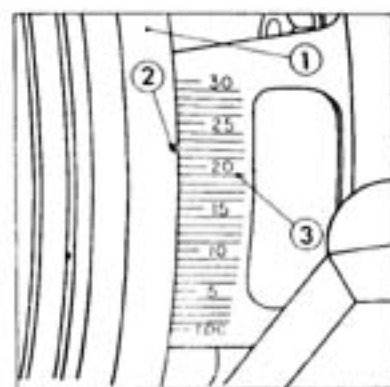

FIG. 11
- a. Some models are equipped with a timing scale just forward of crankshaft pulley on port side (See Figure 11). Rotate engine crankshaft until timing mark (a saw cut or scratch mark) on periphery of pulley coincides with the desired mark on scale. See "Specifications"